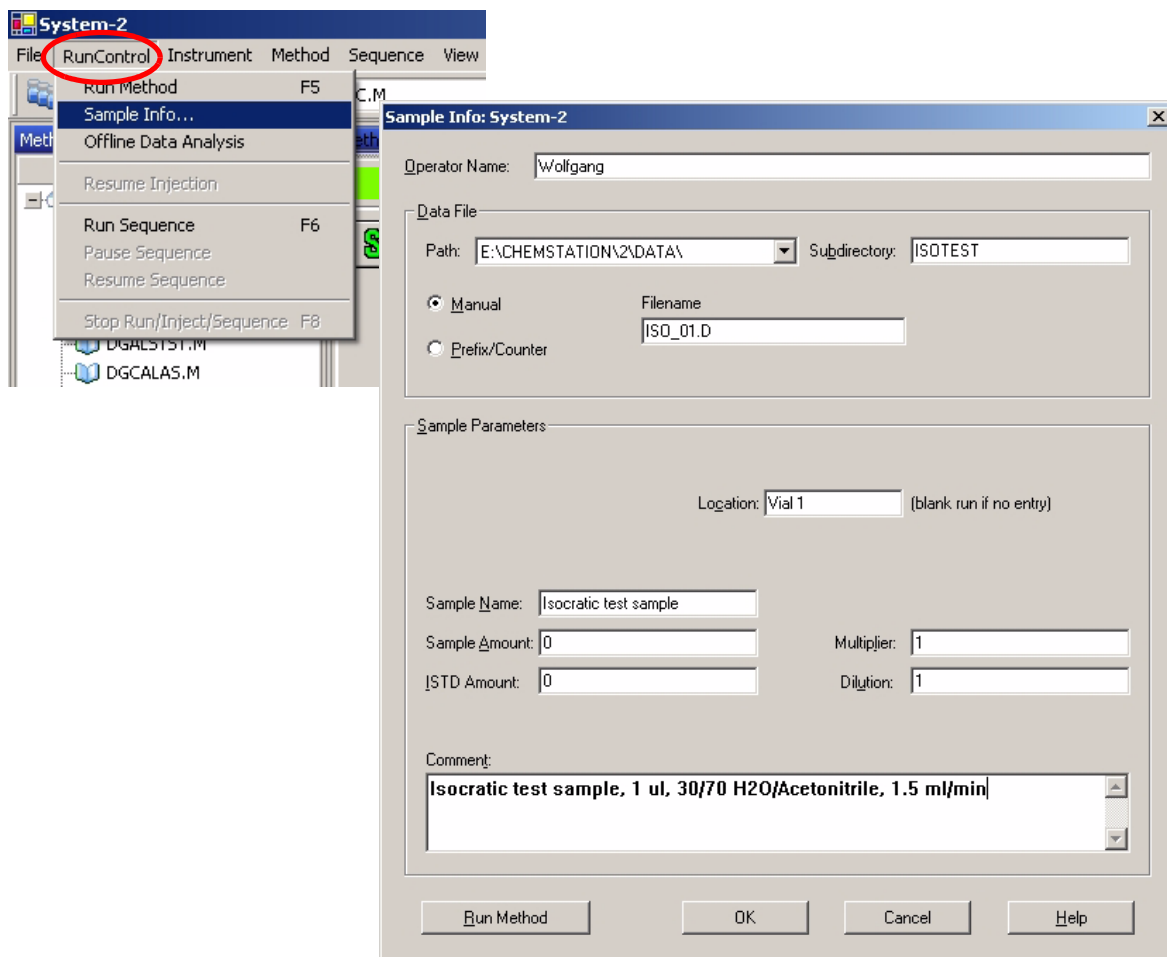

Figure 16 Sample Information
- 14 Select the menu item *RunControl* -> *Sample Info* and enter information about this application (Figure 16 on page 57). Press *OK* to leave this screen.